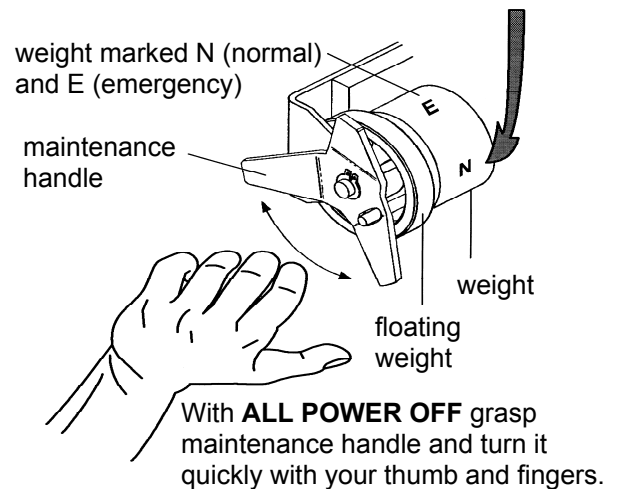

Figure 3. Maintenance handle and positions.
1. After deenergizing both power sources, open the enclosure door. Locate the maintenance handle on the left side of the transfer switch. See Figure 3